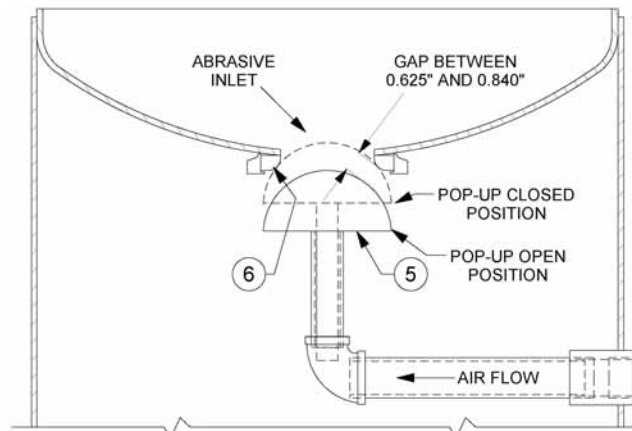

Figure 8.1 – Standard Pop-up Assembly
Check the pressure vessel internal piping for corrosion, cracks, and holes. See Figure 8.1.
- e) Check the popup gap (distance between the popup surface and the gasket). It should be between 0.625" and 0.840". See Figure 8.1. An excessive gap is created by a vertical nipple that is too short. An excessive gap will expose the top of the vertical nipple to abrasive when the popup closes which could result in premature wear to the popup.